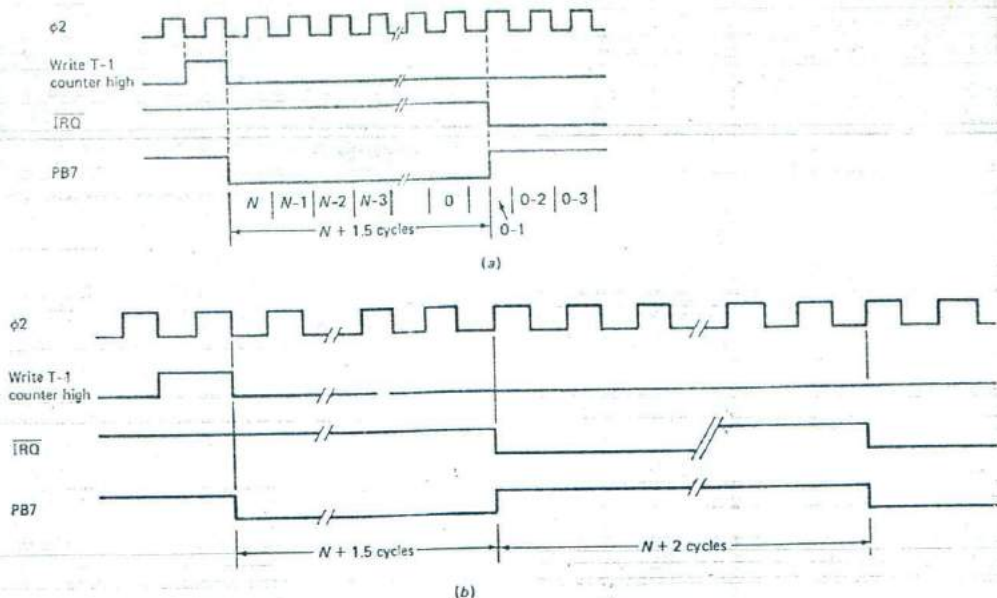

Fig. 12-23 Timer 1 operating modes. (a) One-shot operation. (b) Free-run operation.
Timer 1 can be used in a one-shot mode or in a free-running mode. The *one-shot mode* generates a single interrupt for every timer load operation. The delay between the write to the high byte of the counter and the generation of the processor interrupt is a function of the 16-bit data word loaded into the counter. Timer 1 can be programmed to produce a single negative pulse on the PB7 peripheral pin in addition to generating a single interrupt. If bit 7 in the auxiliary control register is set, a write to the high byte of counter 1 will cause PB7 to go low (see Fig. 12-23(a)). When timer 1 times out, PB7 returns high. This provides a single programmable-width output pulse for controlling some device or circuit interfaced to the microcomputer or microcontroller.
Suppose some industrial system requires single pulses of $35,768 \mu\text{s}$ in length. First, bits 6 and 7 of the auxiliary control register would have to be set to 0 and 1 respectively. This procedure will select the one-shot mode and enable PB7. Also, bit 7 of the data direction register for port B must be set to enable PB7 as an output. Assuming a 1-MHz clock, each clock cycle will be $1 \mu\text{s}$ in length. Therefore timer 1 must be loaded with the binary equivalent of $35,768$ minus 1 or 2. This is because PB7 will go low for $N + 1.5$ cycles as shown in Fig. 12-23(a). The pulses produced will be $0.5 \mu\text{s}$ more or less than the required value. This error is of no consequence in most industrial applications. The hex equivalent of decimal $35,767$ is $8\text{BB}7$. Next, the processor will write $8\text{B}7$ to register 4. This operation stores the lower byte in timer 1's low-order latch. Finally, the processor will write 8B to register 5, which starts the timing pulse. Next PB7 will go low and then go high $35,768.5 \mu\text{s}$ later. Subsequently, one of these pulses can be produced every time the processor writes 8B to register 5. It is not necessary to rewrite the low byte because it has been latched.
The *free-run mode* takes more full advantage of the latches associated with timer 1. Every time the counter reaches zero, the contents of the latches are transferred into the counter, and the counter starts decrementing from N again. This is in contrast to the one-shot mode, in which the count decrements from 0 after a time-out. Figure 12-23(b) shows the free-run mode of operation for timer 1. Suppose register 6 (the low-order latch) contains 83C , and register 7 (the high-order latch) contains 81A . The decimal
- Refer to Fig. 12-23(a). Assume a 1-MHz clock and the VIA one-shot timer mode. What hex value should be stored in the low byte of timer 1 for an output pulse of 500.5 μ s? What hex high byte must the processor write to initiate the pulse?
- Refer to Fig. 12-23(b). Assume a 1-MHz clock and the VIA free-running timer mode. Also